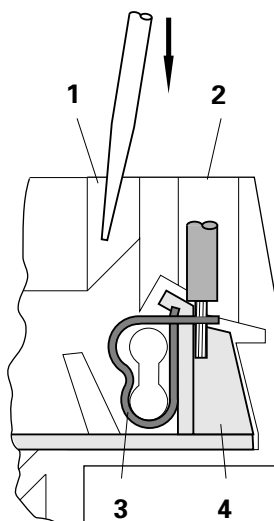

Figure 7
2. Place a small screwdriver with a strong, tapered blade (maximum  $\varnothing$  3 mm) into the square hole (1) in the terminal element (See Fig. 7).